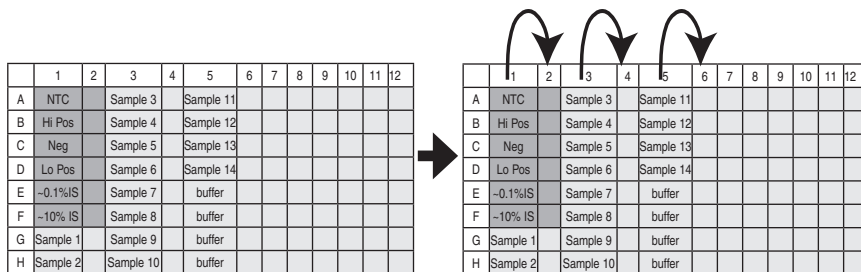

Figure 5: ddPCR plate layout
- a. See Figure 5 for required plate layout.
- c. Aliquot 34 µL/well of ddPCR Master Mix (without cDNA sample) into the plate according to Figure 5.
- j. Transfer 25 µL of each sample into neighboring well to create duplicate wells as shown in **Figure 5**.